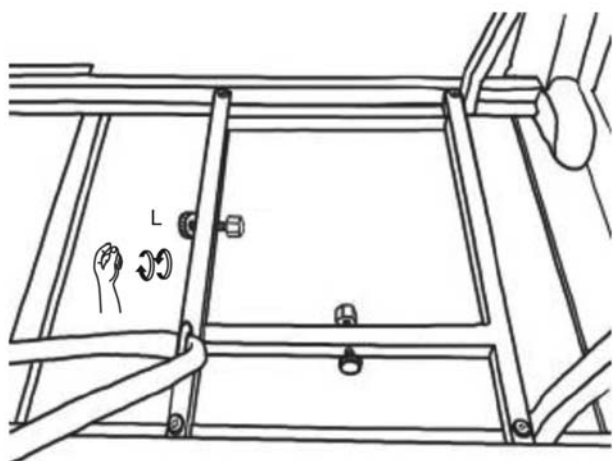

Figure 8
- Tighten threaded knobs (L) found on tank tray (Figure 8) so that the LP tank cannot move from side to side. Do not remove plastic cap from end of threaded section.